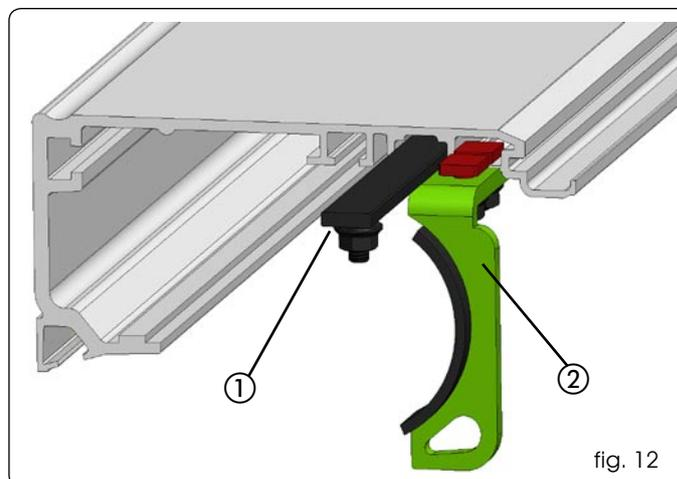

fig. 12
Insert the rod with tie-rods sideways on the support profile in order to fit the electronics module and ring motor fig.12 ① ②